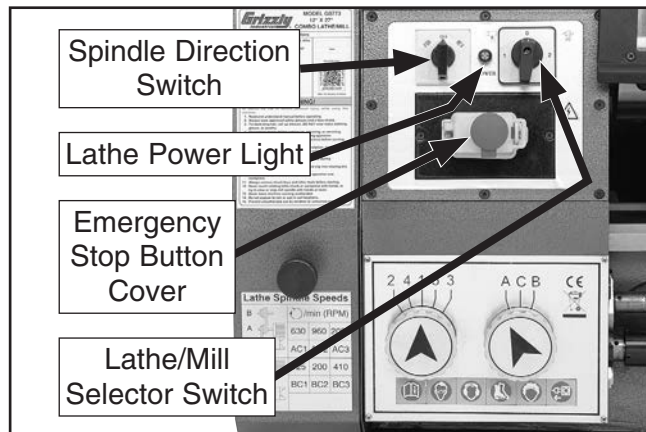

Figure 17. Headstock controls.
2. Press Emergency Stop button cover (see **Figure 17**) to prevent unexpected start up.
7. Connect machine to power. Lathe power light (**Figure 17**) should illuminate if machine is correctly connected to power supply and all electrical controls are positioned correctly for startup.
- Set lathe/mill selector switch to "2" for mill mode (see **Figure 17** on **Page 24**).